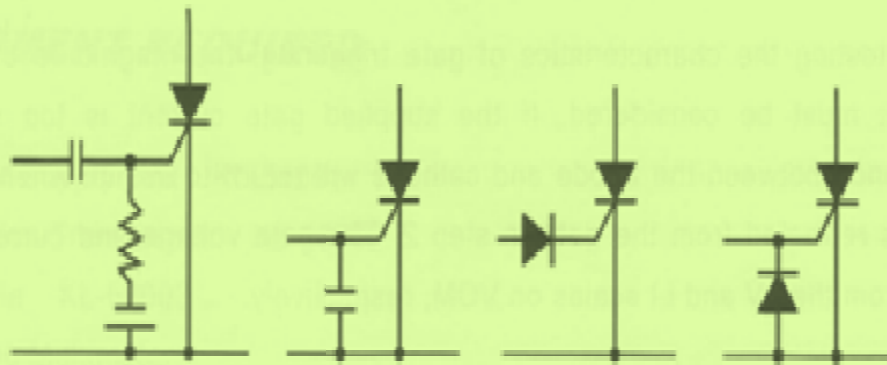

Fig.7-20 Protection against excessive reverse voltage at the gate
(3) Prevention against premature triggering
- applied -2 ~ -5V reverse bias to the gate, as shown in Fig.7-20(a)
(4) Protection against excessive gate dissipation
(5) Prevention against excessive reverse voltage at the gate is shown in Fig. 7-20.